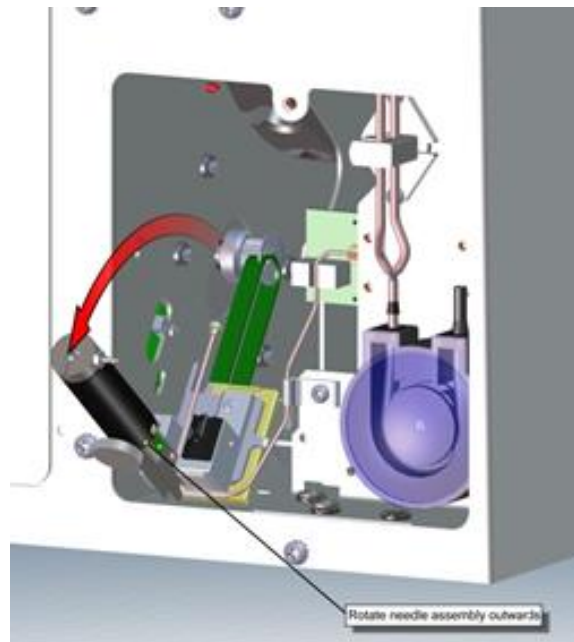

Figure 6
6. Pivot the Needle Piston Assembly outwards as shown in Figure 6 below.